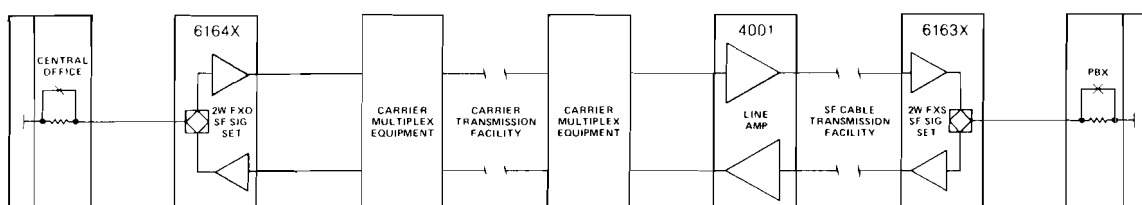

figure 2. Typical foreign-exchange (FX) application of 6164X NCTE module
2.01 The 6164X 4Wire-to-2Wire SF-to-FXO Terminal Repeater module is typically used to interface a 4wire SF transmission facility with a 2wire metallic signaling link that uses the type of loop signaling normally associated with the office end of a foreign-exchange (FX) or off-premises-extension (OPS) circuit. No external transmission interface circuitry is needed because the 6164X module combines the functions of a 4wire line amplifier, an SF transceiver, an SF-to-FXO signaling converter, and a 4wire-to-2wire hybrid terminating set. Figures 2, 3, and 4 show three typical applications.